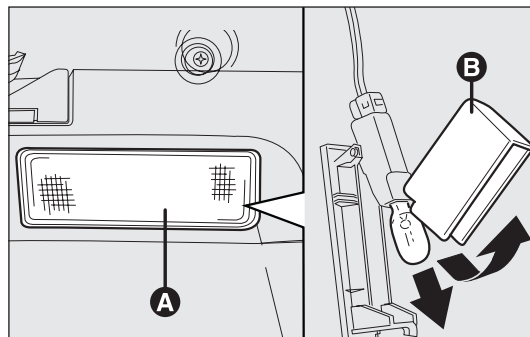

fig. 185
BOOT LIGHT fig. 185
- ☐ remove the light A-fig. 185 by levering on the point shown by the arrow.